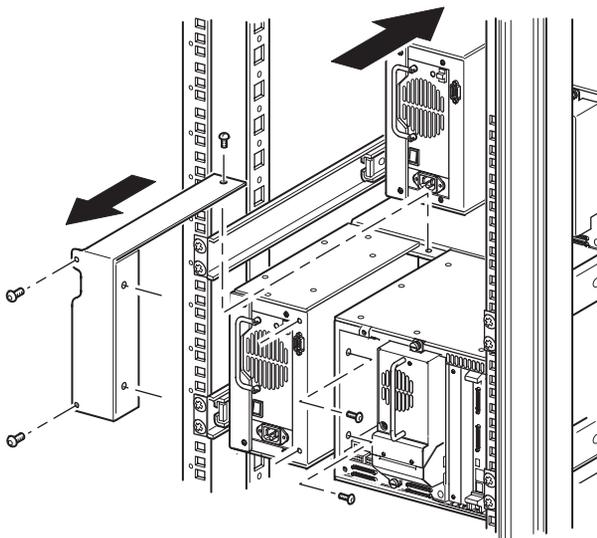

Figure 2–8: Removing the PTM cover plate
- c. Using a #2 Phillips screwdriver, remove the screws that secure the PTM cover plate to the rear of each library chassis (see Figure 2–8).
4. Install the PTM base unit (see Figure 2–9).